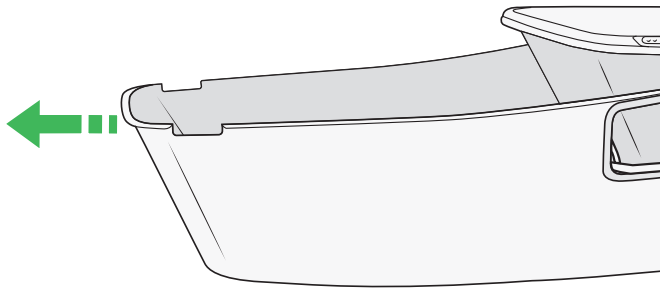

Figure 104
13. Remove the outer cover carefully by lifting up at the head end and pulling it towards you. See Figure 104.